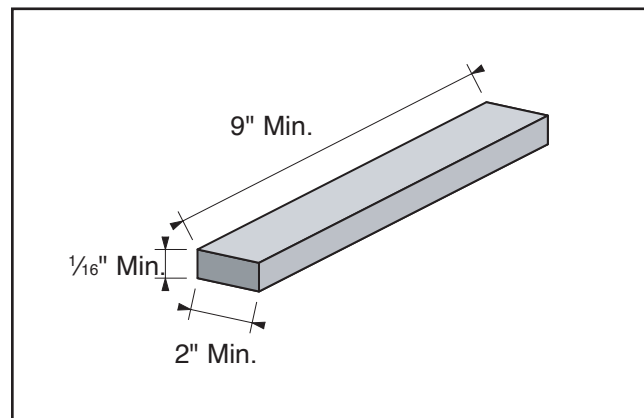

Figure 29. Minimum dimensions for sanding.
- **Minimum Stock Dimensions:** DO NOT sand boards less than 9" long, 2" wide, and $\frac{1}{16}$ " thick to prevent damage to the workpiece and to reduce the risk of your hands contacting the sandpaper (see **Figure 29**).